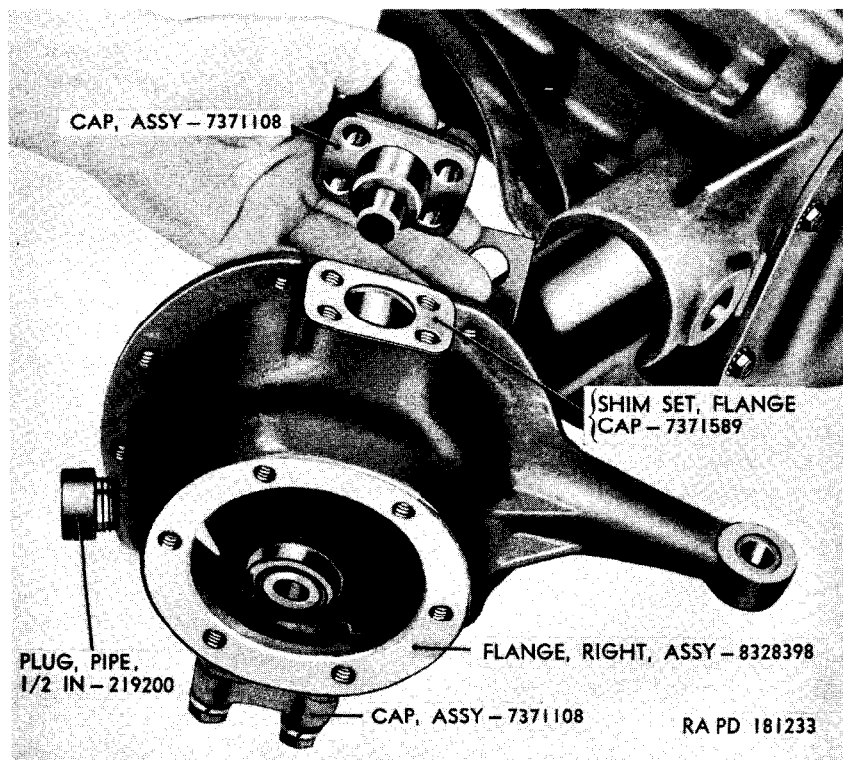

Figure 97. Removing front axle steering knuckle flange cap assembly.
b. Remove Steering Knuckle Flange Cap Assemblies. Remove the two remaining bolts and lockwashers securing the top steering knuckle flange cap assembly to top of the flange. Lift the cap from recess in top of steering knuckle flange (fig. 97). Remove the flange cap shim set. Remove the lower cap assembly in the same manner.